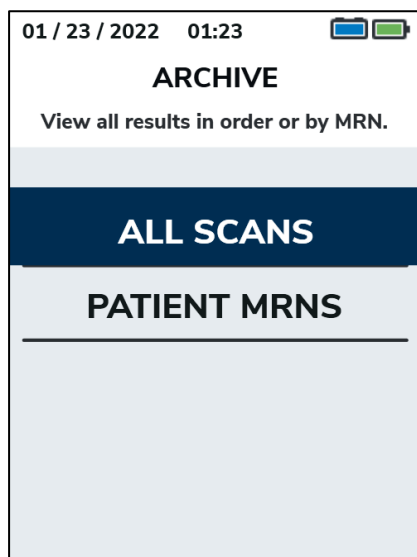

Figure 3-10: Archive Screen
2. To view archived measurements organized by measurement number click on "All Scans" button or select "Patient MRNs" to view archived measurements organized by MRN, as shown in Figure 3-10.